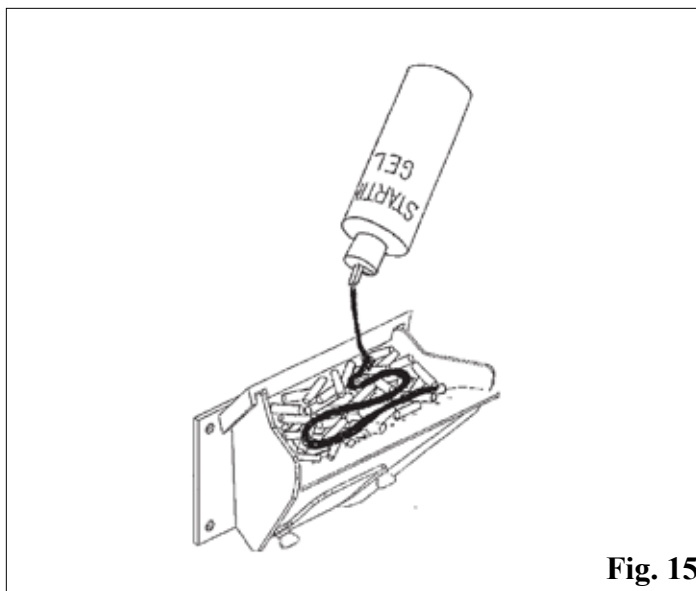

Fig. 15
11. Apply starting gel as shown in Fig.15